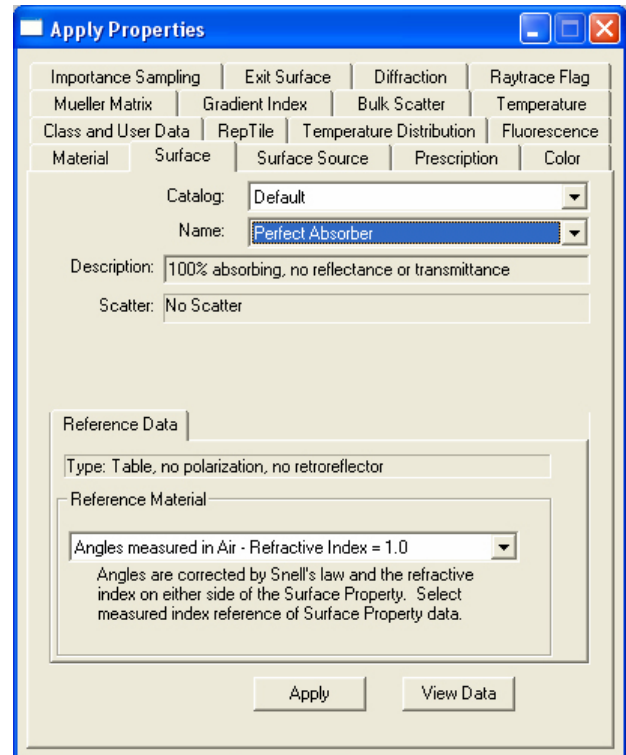

Figure 17. Apply properties for Perfect Absorber.
8. Enter the parameters as shown in Fig. 17,